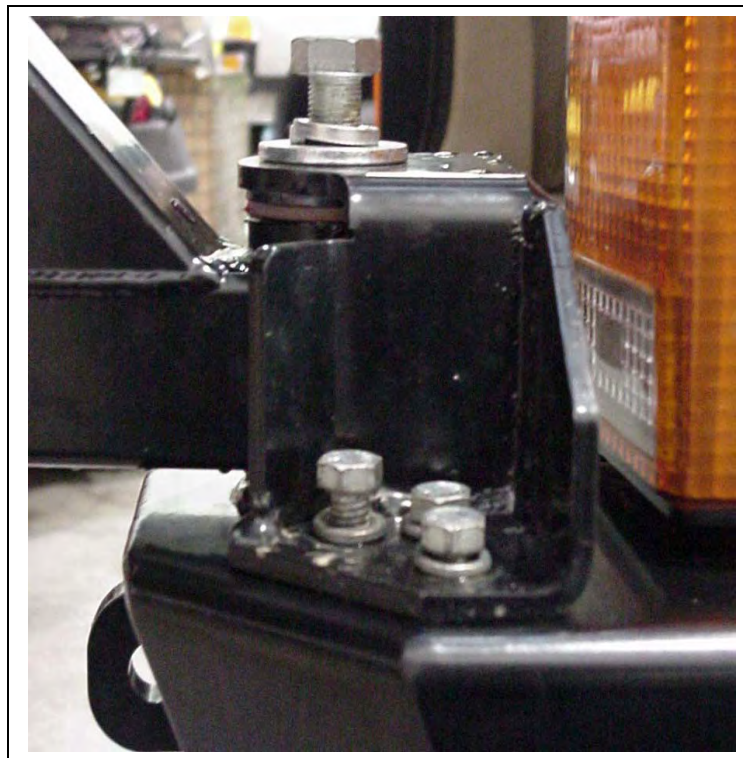

Figure 11, Support Bracket
13. Install the post support bracket to the post and passengers side end cap using the hardware provided. Loosely install the 5/8" bolt, lock washer, and flat washer through the bracket and into the top of the post. Install 7/16" bolts and lock washers through the bracket and into the passenger's side end cap. Torque the 7/16" bolts first and then the 5/8" bolt. **See Figure 11.**